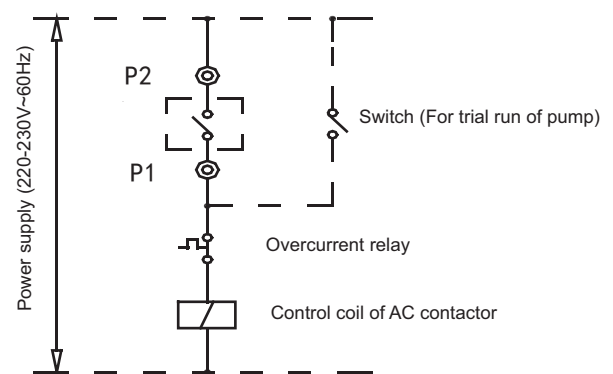

Fig.5-3
Step 11. Connection of control wires of pump: the control wires of AC contactor of pump must pass the connection terminals p1 and P2 of the main unit, as shown in Fig. 5-3.